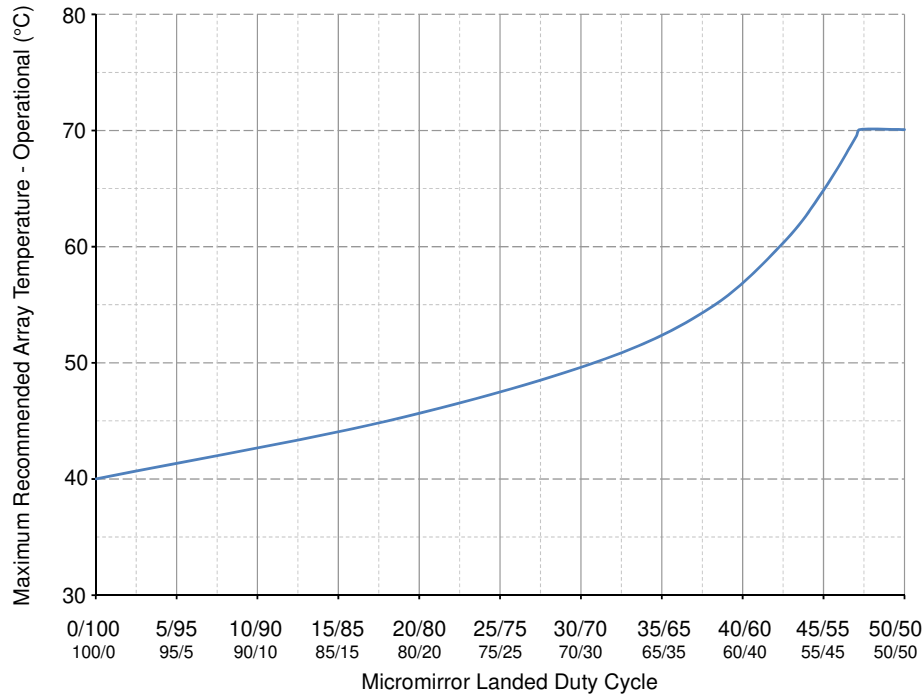

Figure 5-1. Max Recommended Array Temperature—Derating Curve
- (11) Long-term is defined as the usable life of the device.
- (12) Per Figure 5-1, the maximum operational array temperature should be derated based on the micromirror landed duty cycle that the DMD experiences in the end application. See Section 6.8 for a definition of micromirror landed duty cycle.
- (13) Short-term is defined as cumulative time over the usable life of the device.